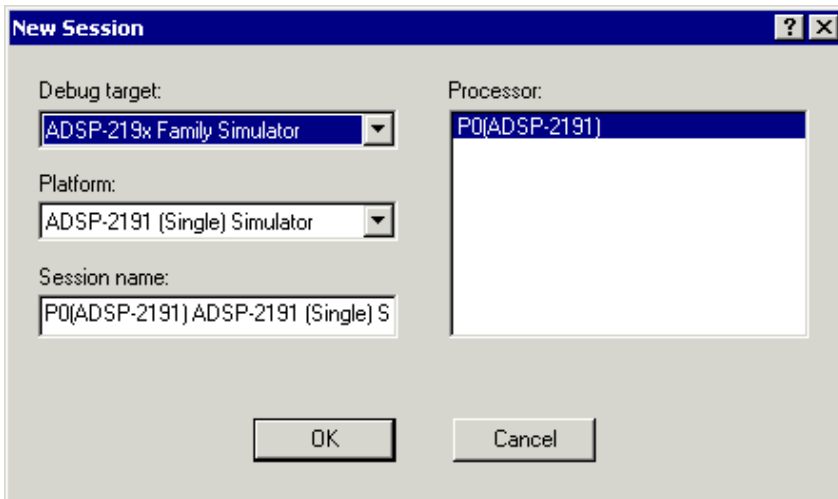

Figure 3-3. New Session Dialog Box
1. In the Session List dialog box, click New Session to open the New Session dialog box, shown in Figure 3-3.